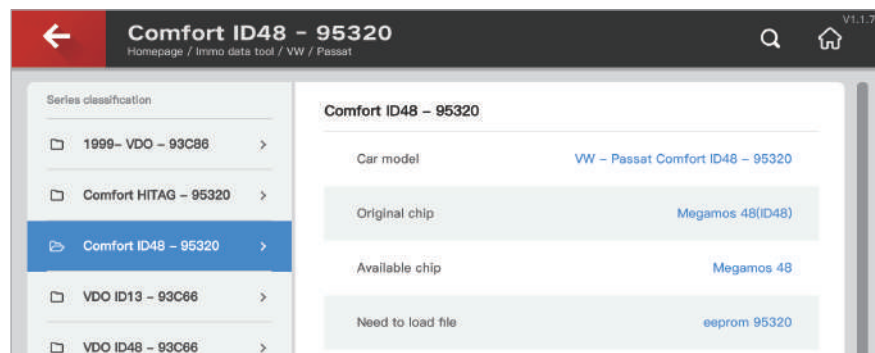

Fig.8.2.1
- 1 Choose VW/Magotan, CC ID48– 95320 option as shown in Fig. 8.2.1.